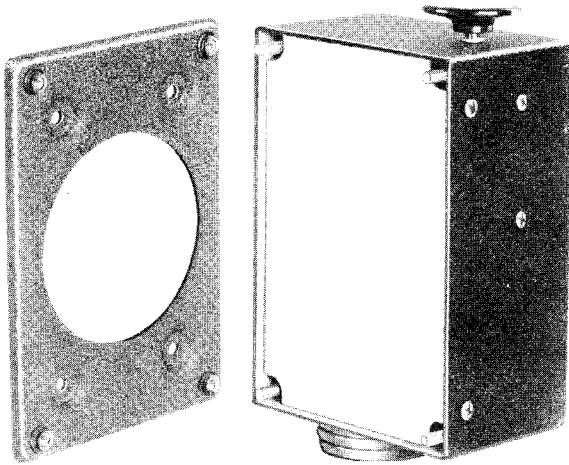

Figure 2-6. Type C-87/ART-13 Pilot Control Unit
(3) TYPE C-87/ART-13 OR C-740/ART-13 PILOT'S CONTROL UNIT.
(a) Mount the Type C-87/ART-13 or C-740/ART-13 Pilot's Control Unit (figure 2-6 and 6-37A) in a position convenient to the pilot. Figure 8-7, page 8-13, 14 shows the outline dimensions and mounting details of the C-87/ART-13. Mount the C-87/ART-13 with the key upward and in a position that will facilitate the operation of the telegraph key when using CW or MCW emission. Figure 8-7A, page 8-13A, 14A shows the outline dimensions of the C-740/ART-13. Mount the C-740/ART-13 in accordance with sub-paragraph (3) (c) below.